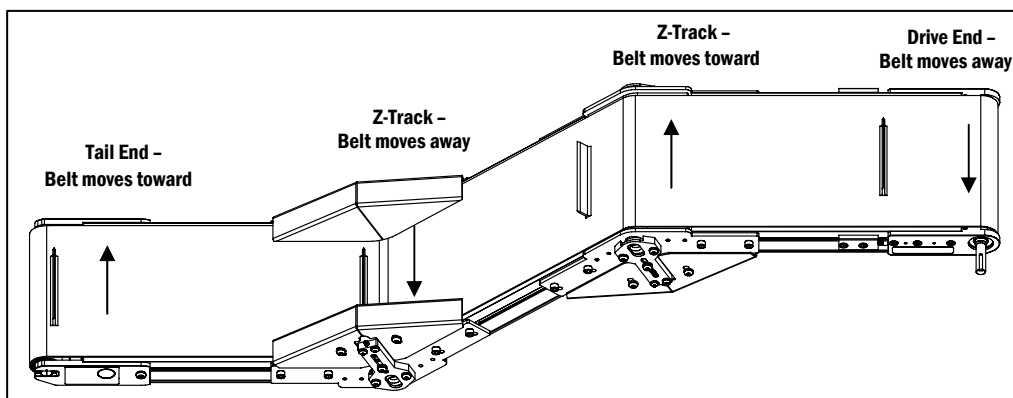

Figure 7
g. The previous steps a. – f. may have to be performed more than once, and in other areas, as adjustments made at Z-Track idlers affect tracking in other areas. For example, the adjustments made at a set of Z-Track idlers will cause a reaction on either side of that adjustment location (**Figure 7**).